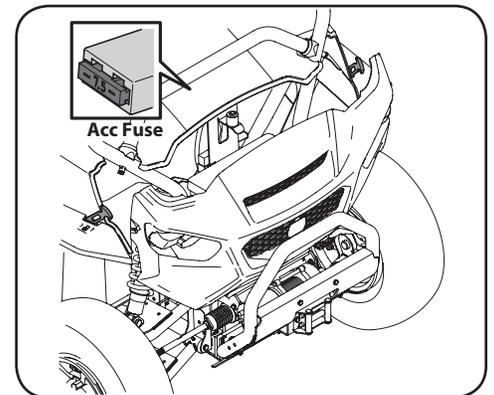

Figure 6-10
2. Remove the Acc (accessory) electrical fuse and replace if needed with proper rated amp fuse. See Figure 6-10.